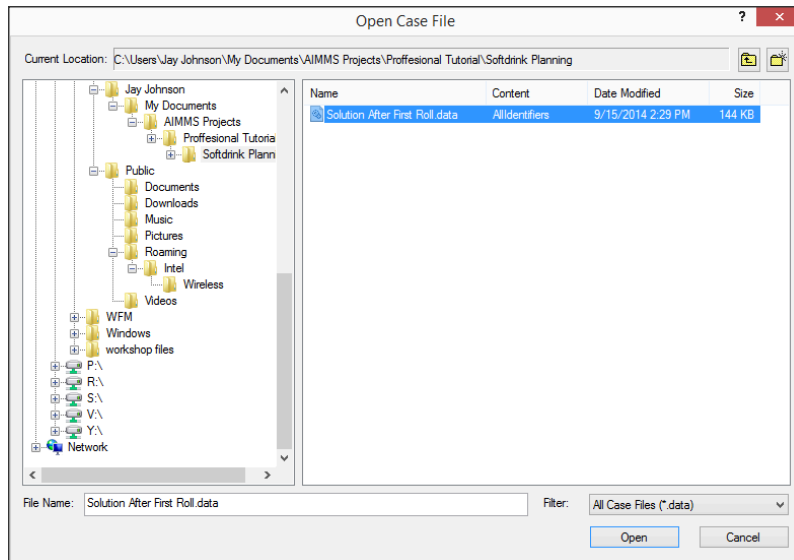

Figure 14.2: Loading your first case
- ▶ press the **Open** button (see Figure 14.2).